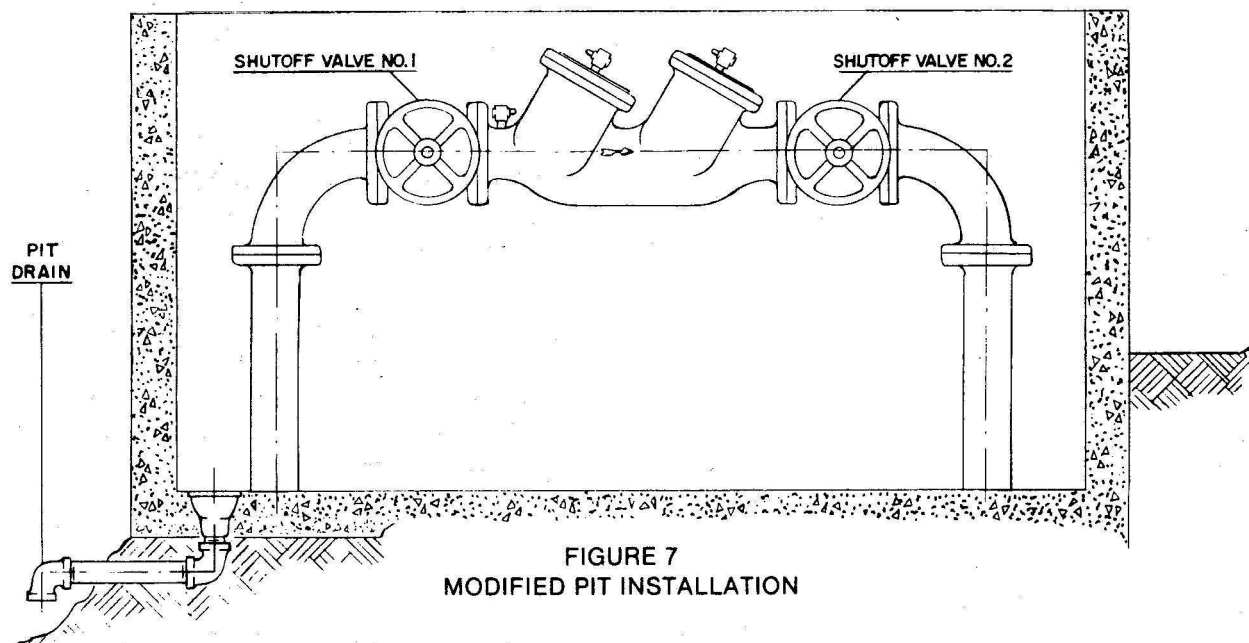

FIGURE 7
C. MODIFIED PIT INSTALLATION (Fig. 7)
Installation of double check backflow preventers in pits below grade is not recommended. Should the pit be located on a slope, so that a drain can be installed which discharges by gravity to at least 12" above grade, the "modified" pit installation may be used (Fig. 7).